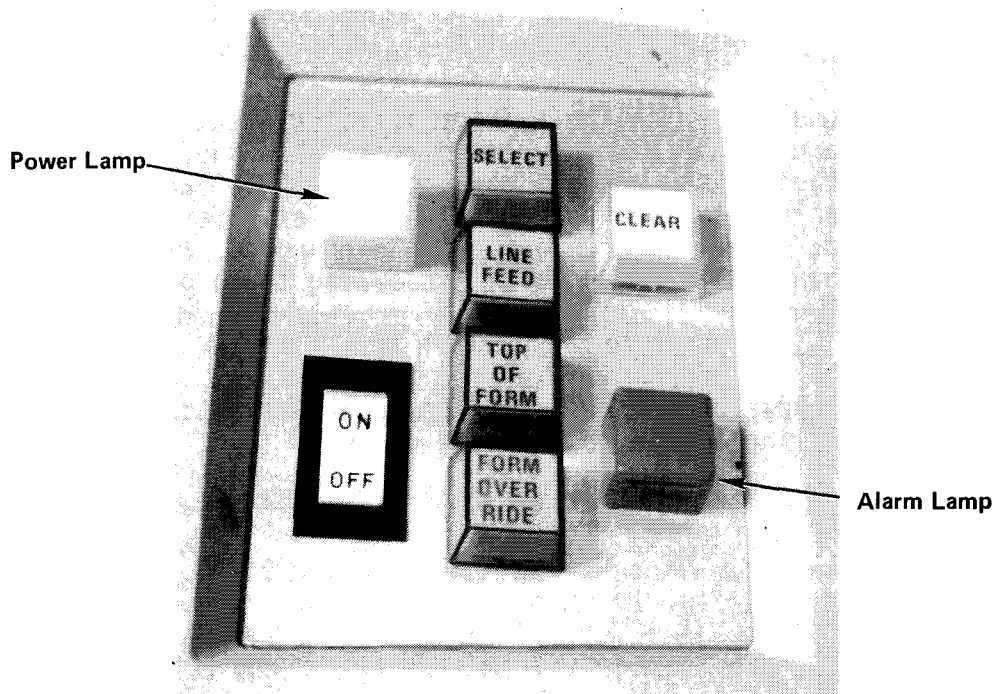

Figure 1.2 Control Panel
4. Press the ON/OFF rocker switch on the Control Panel (see Figure 1.2) When the printer is on, the power lamp (upper left of Control Panel) is lit.
The control panel on the right-hand side of the Printer contains a number of switches, buttons and light indicators for controlling the manual operations of the printer (see Figure 1.2).